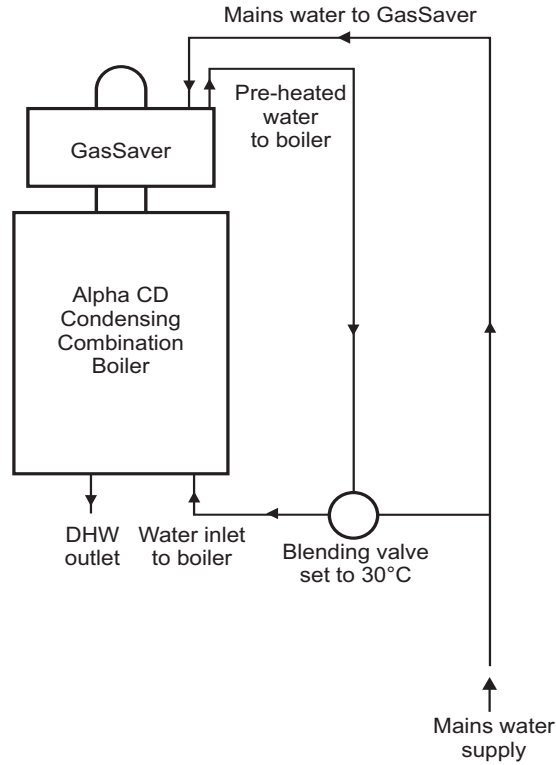

Fig. 3
4.1 TYPES OF INSTALLATION - Fig. 3 and 4
Depending on the type of boiler used, the GasSaver should be installed as shown in one of the following schematics Figs. 3 and 4.
5.4 CONNECT THE PIPEWORK - Figs. 3, 4 and 9